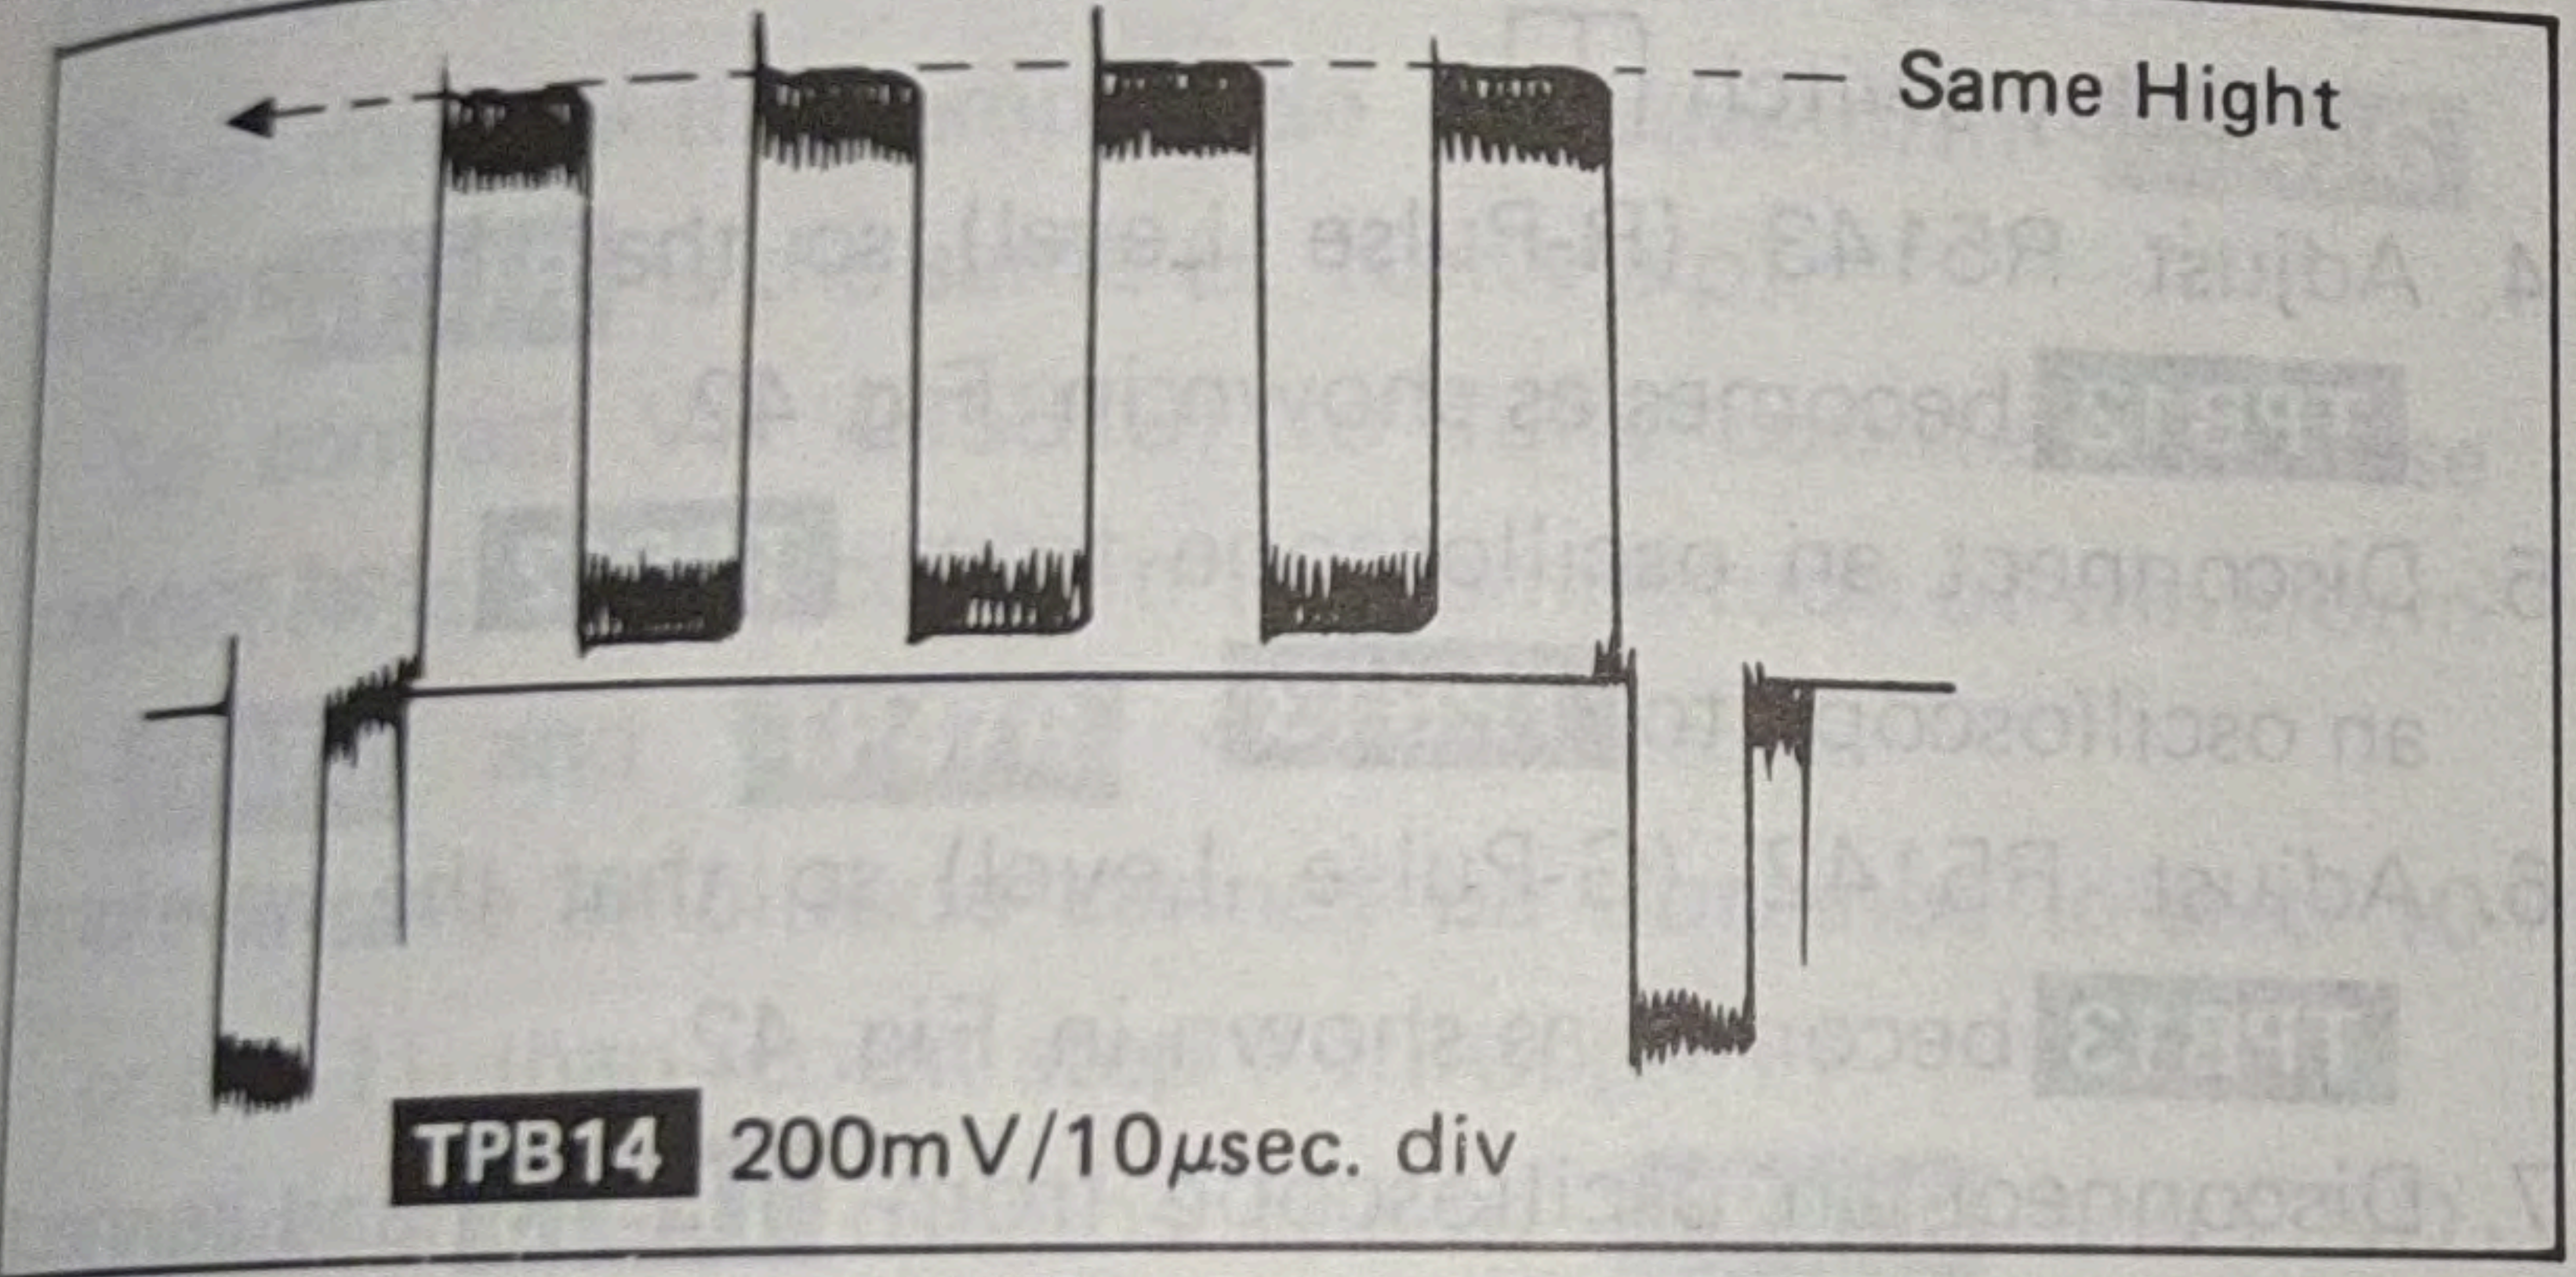

Fig. 36
4. Adjust phase VR (R5809) and Chroma VR (R5804) so that the waveform **TPB14** becomes as shown in Fig. 36.